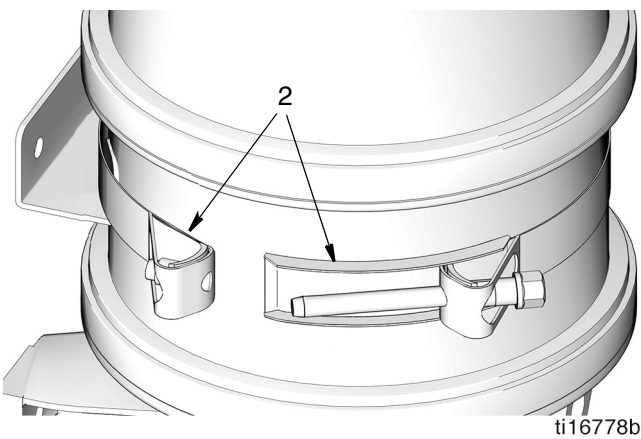

FIG. 3
2. Fully open the band clamp (2) as shown in FIG. 3.
3. Place the band clamp (2) around the reservoir and over the bracket (1) as shown in FIG. 3 and FIG. 4.